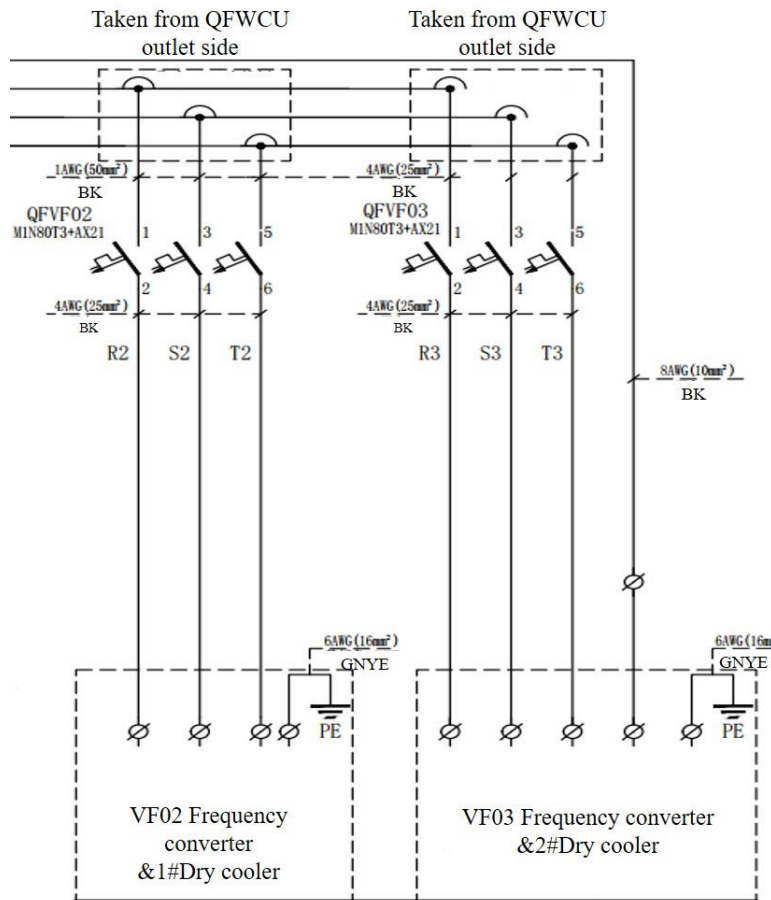

Figure 6.97 Schematic diagram of container main control cabinet molded case circuit breaker QFVF02/QFVF03.
- b. 2 # dry cooler project power cable according to the label content XT1-1, XT1-2, XT1-3 and PE connected to the dry cooler electronic control box terminal XT1-1, XT1-2, XT1-3 and grounding copper row. The other end of the phase wire according to the label content QFVF03-2, QFVF03-4, QFVF03-6 connected to the container main control cabinet plastic case circuit breaker QFVF03 lower output interface, as shown in Figure 6.97. The ground PE connected to the bottom of the cabinet copper row, and according to the requirements of the tightening torque, the cable into the left side of the trunking to cover the trunking cover.